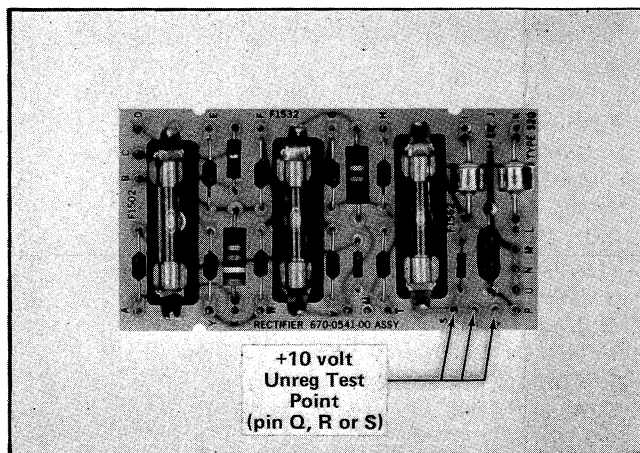

Fig. 6-17. Rectifier board test point location.
- a. Connect a DC voltmeter between ground and pin Q, R, or S (+10 volts unregulated power supply) of the rectifier board; see Fig. 6-17.